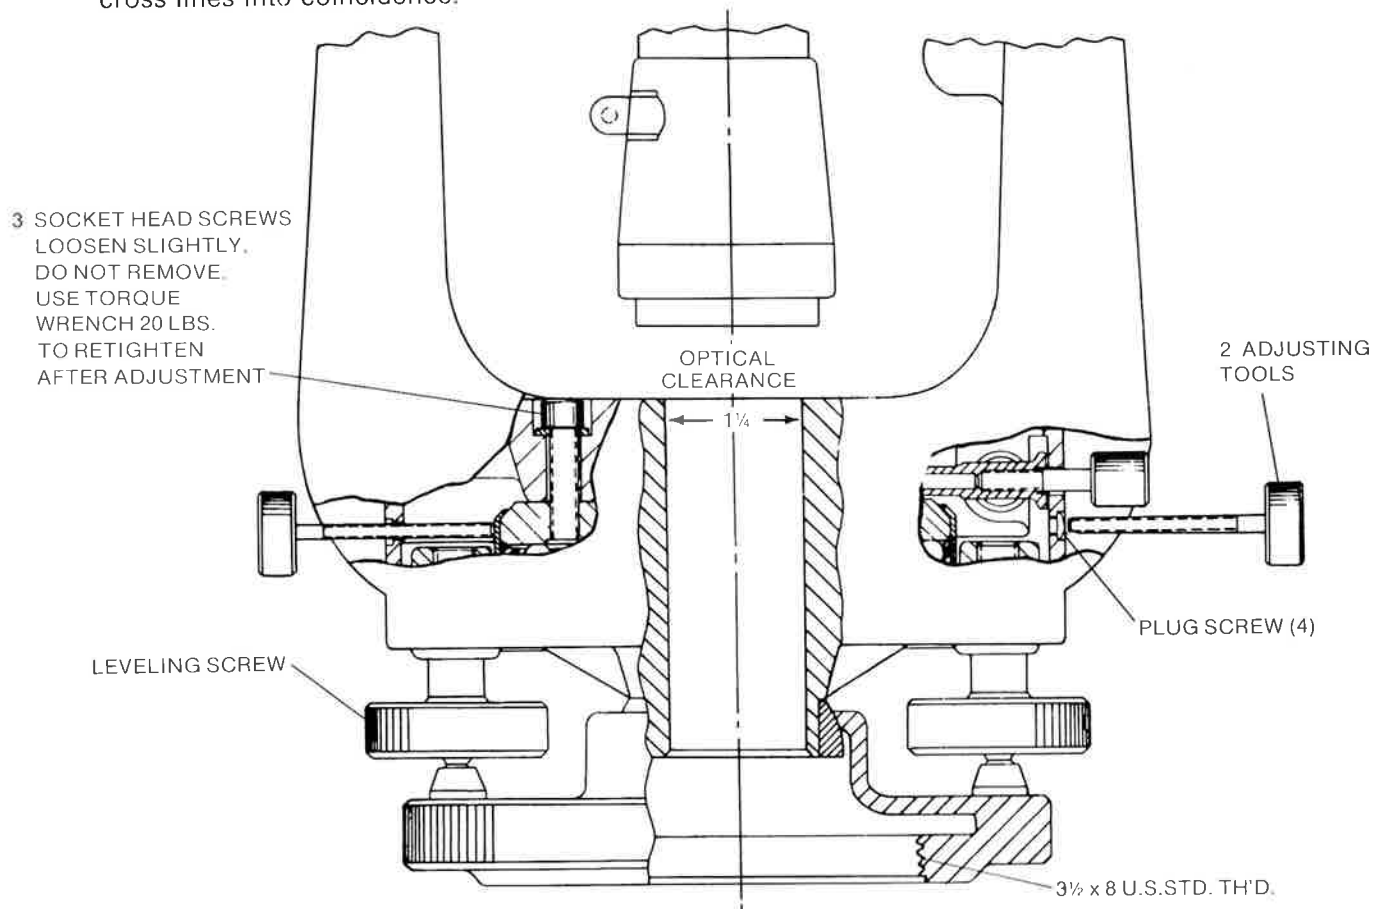

Figure 3-2. How Line of Sight and Elevation Axis Are Made To Intersect Azimuth Axis
(a) Remove the two plug screws under the two standards. (See Figure 3-2.) Screw in the two special adjusting tools until they stop.
- (b) Remove the four plug screws (Figure 3-2).